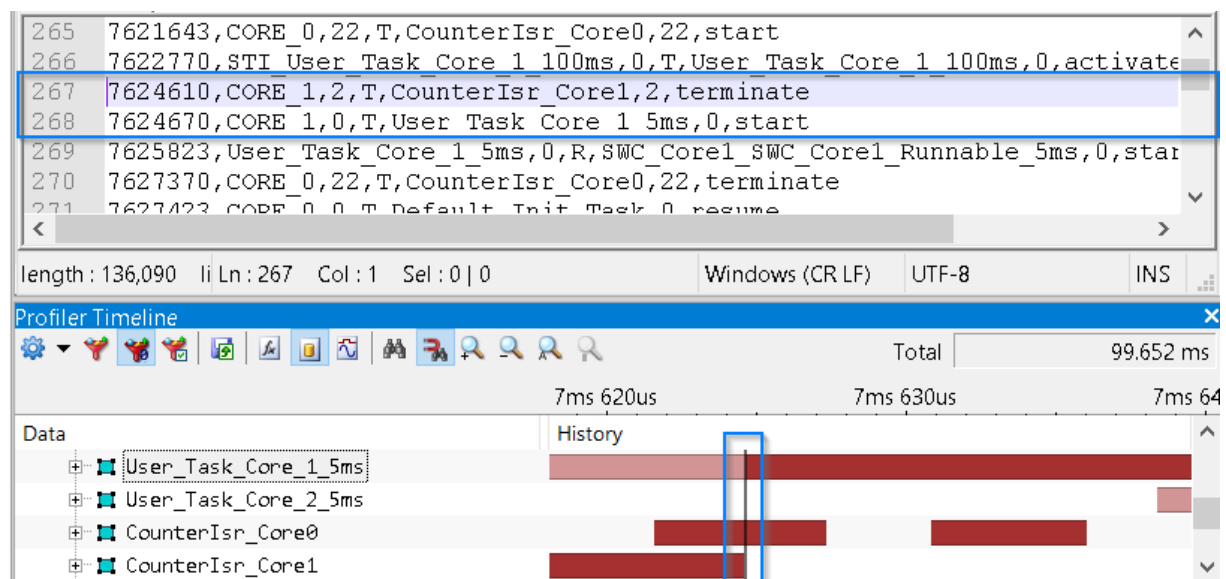

Figure 12: The winIDEA Profiler can export to the BTF format. Multiple timing tool vendors support BTF.
4. The result is a BTF trace, as shown in *Figure 12*.